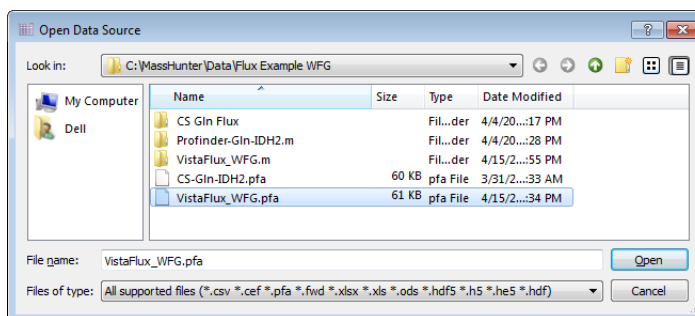

Figure 110 Open Data Source dialog box
- b Navigate to the folder and select your PFA file (Figure 110).